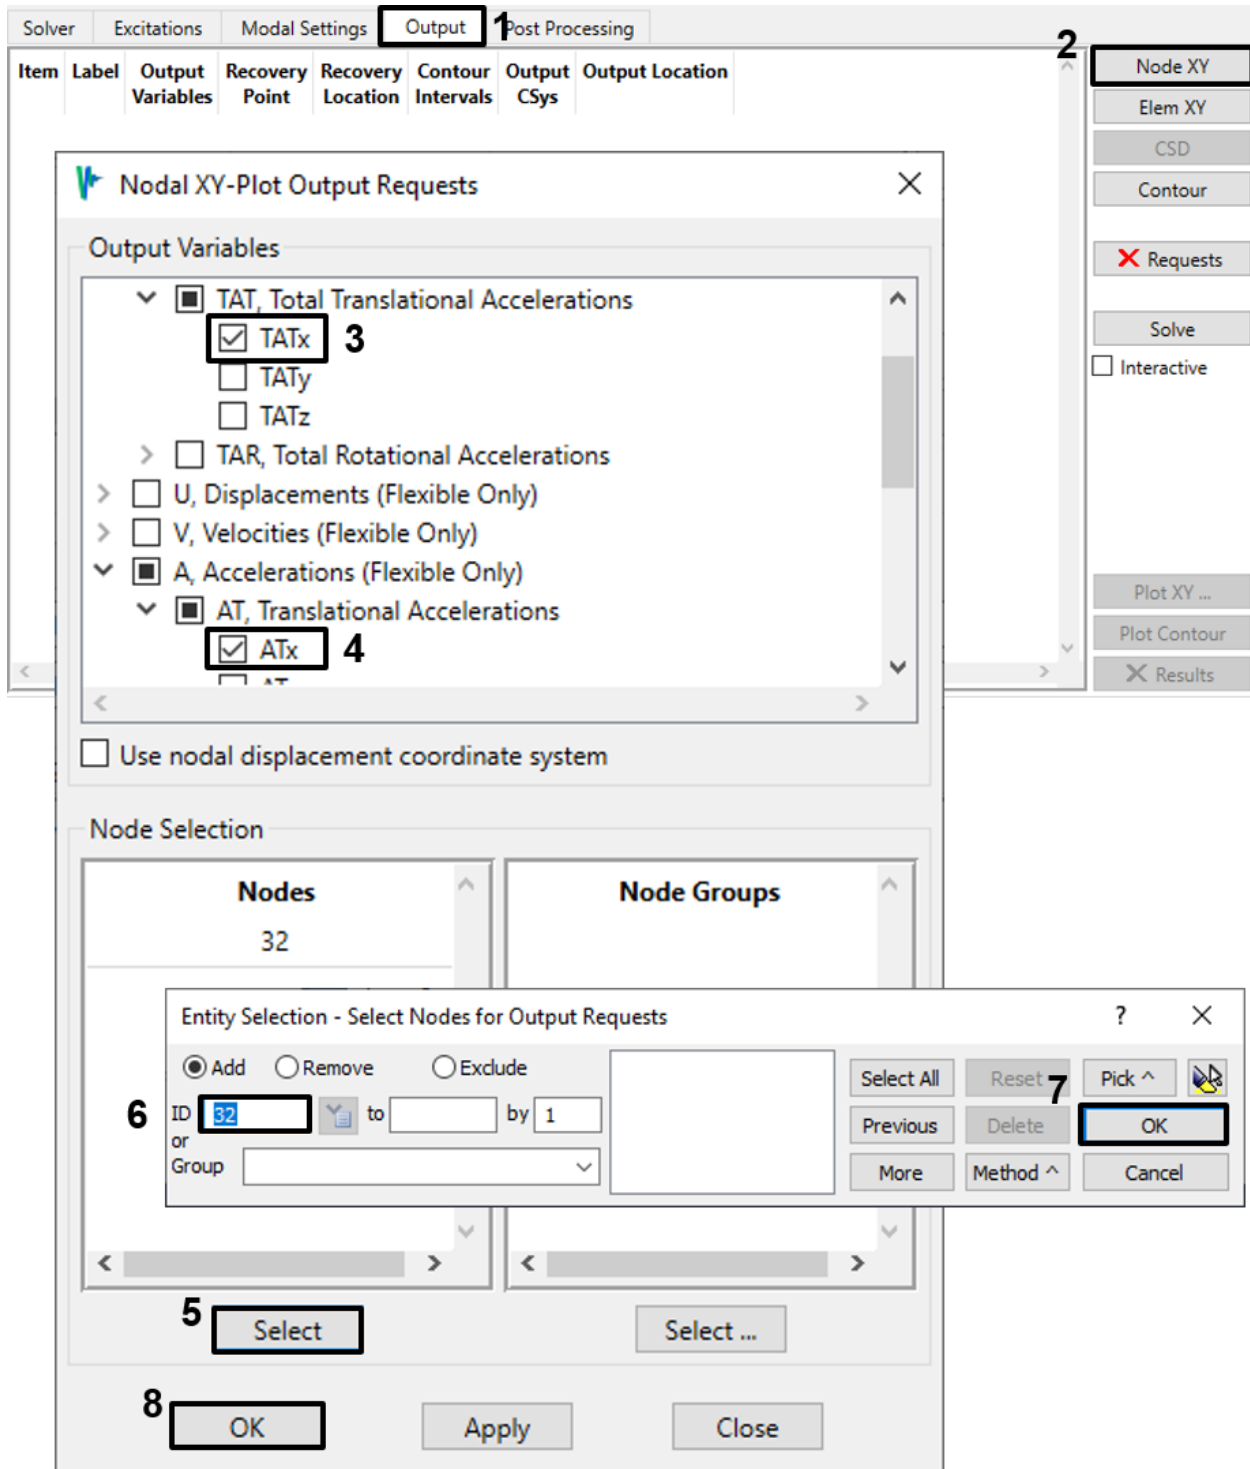
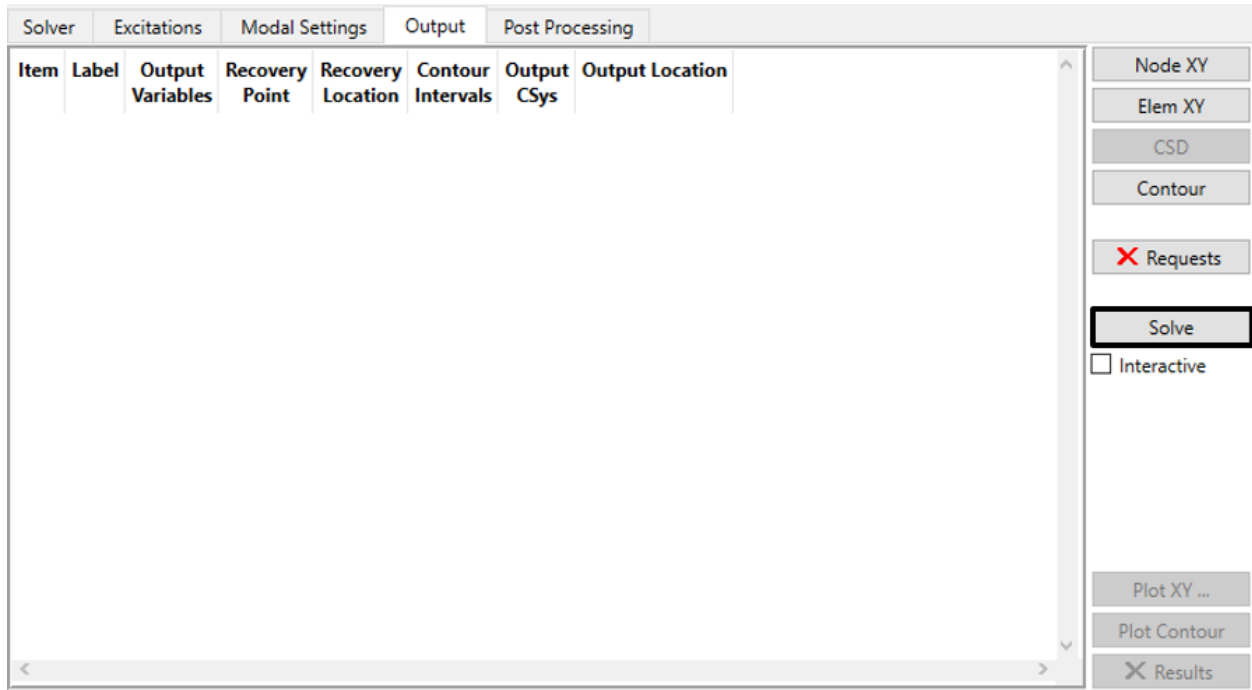

Figure 4-15. Request XY output for total and flexible X-accelerations at node 32.
Figure 4-16. Solve for the requested output.
5. Create a Node XY output request for the free DOF. Select the *Output* tab. Request X-direction output at node 32 for Total Accelerations (*TATx*) and Relative Accelerations (*Atx*), as shown in Figure 4-15. When you click **OK** or **Apply** on the *Nodal XY-Plot* dialog, the request appears in the output request table as shown in Figure 4-16.
a. On the Output tab, click Solve (Figure 4-16) to compute the frequency response.